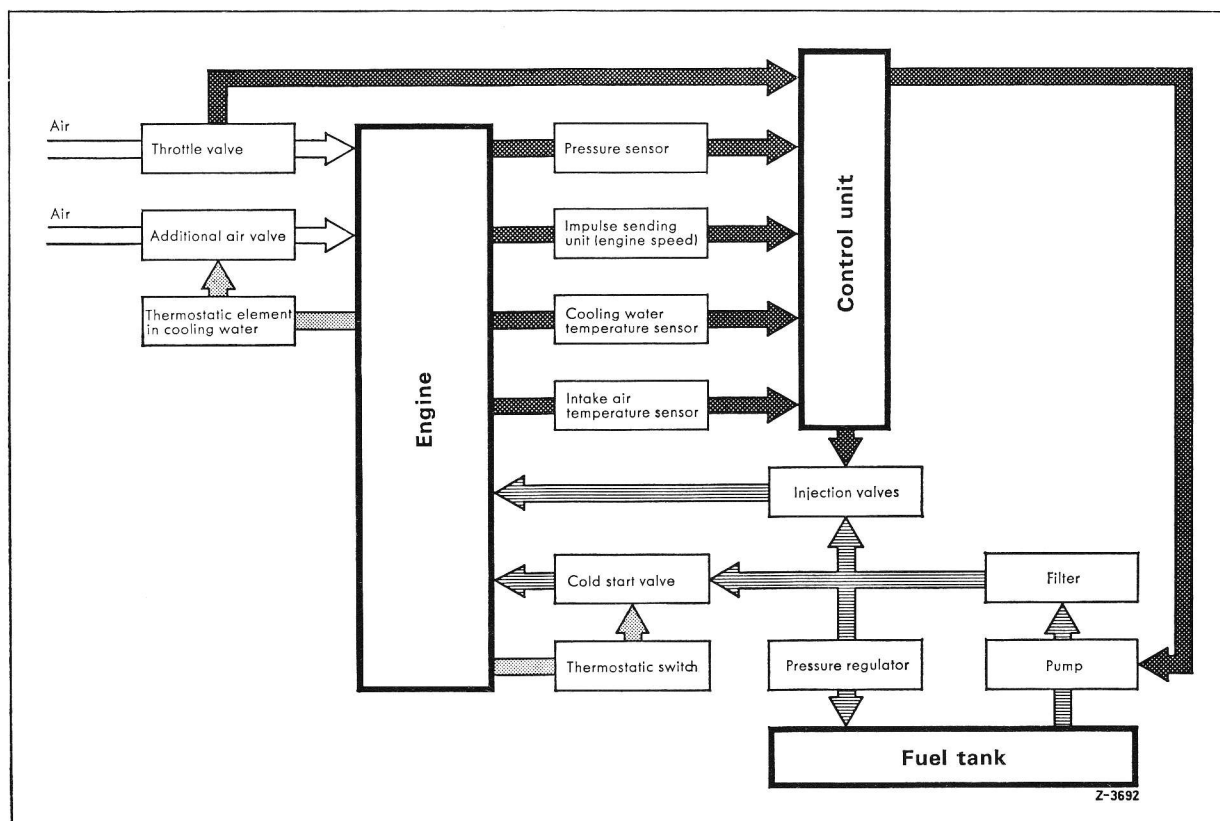

Fig. 3 Diagram of electronically controlled gasoline injection system
The opening period is determined by an electronic control unit (6) which operates in dependence of the engine operating condition. The control unit receives the required information from a number of sensors attached in engine compartment (Fig. 3). For electronically controlled injection the operating condition of the engine is characterized by the two characteristics speed and intake pipe (intake manifold) pressure. The frequency of the trigger impulses entering the control unit serves to determine the engine speed. A pressure sensor (29) connected to the intake pipe measures the intake pipe pressure and transmits that pressure to the control unit.